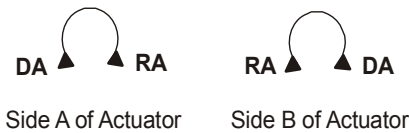

Figure 22: Mode Selection
Actuators have an external mode selection switch to reverse control logic. The switch is accessible from both A and B sides of the actuator as illustrated in Figure 22. Actuators are delivered in Direct Acting (DA) mode and can be switched by the user to Reverse Acting (RA) mode.